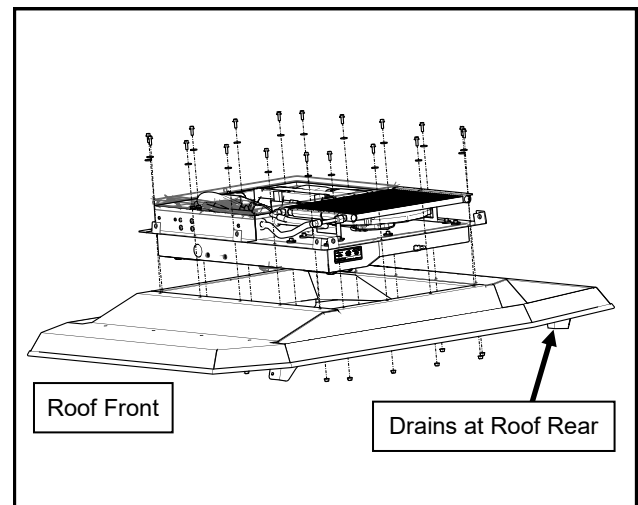

Fig. 2.3 (Insert A/C Unit)
- 2.3 With assistance, place the air conditioner unit onto the roof, center it inside of the roof's rectangular opening. Wipe away any excess silicone from inside and outside of the roof assembly. See Figure 2.3.